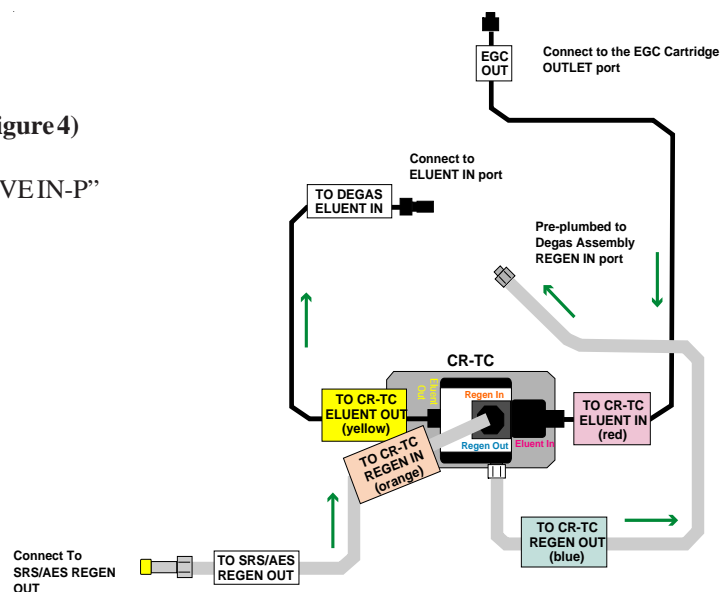

Figure 4
3.1 Completing the CR-TC Plumbing for Operation (Figure 4)